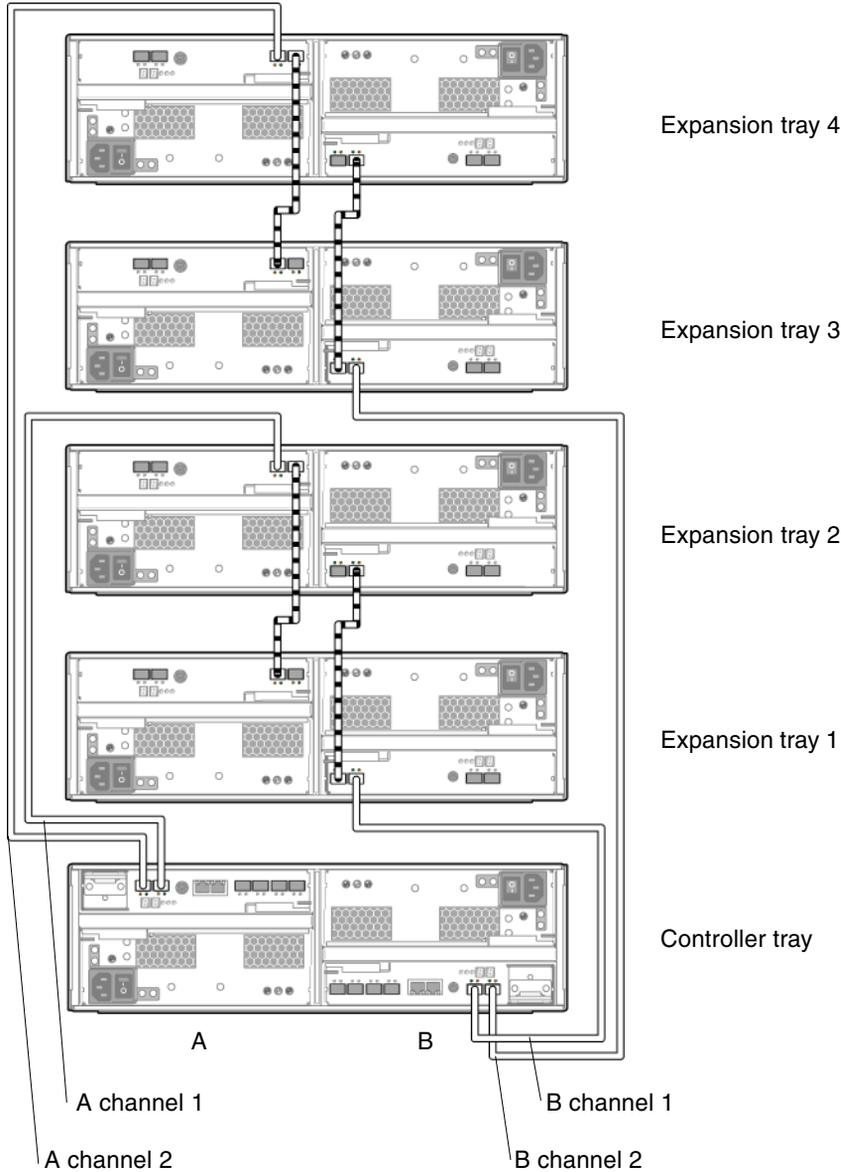

FIGURE 2-26 1x5 Array Configuration Cabling
3. Connect one FC cable between the Controller B channel 1 expansion port and the B-side expansion port 1B of expansion tray 1 (FIGURE 2-26).
4. Connect one FC cable between the B-side expansion port 1A of expansion tray 1 and the B-side expansion port 1B of expansion tray 2 (FIGURE 2-26).
5. Connect one FC cable between the Controller B channel 2 expansion port and the B-side expansion port 1B of expansion tray 3 (FIGURE 2-26).
6. Connect one FC cable between the B-side expansion port 1A of expansion tray 3 and the B-side expansion port 1B of expansion tray 4 (FIGURE 2-26).
7. Connect one FC cable between the Controller A channel 1 expansion port and the A-side expansion port 1B of expansion tray 2 (FIGURE 2-26).
8. Connect one FC cable between the A-side expansion port 1A of expansion tray 2 and the A-side expansion port 1B of expansion tray 1 (FIGURE 2-26).
9. Connect one FC cable between the Controller A channel 2 expansion port and the B-side expansion port 1B of expansion tray 4 (FIGURE 2-26).
10. Connect one FC cable between the A-side expansion port 1A of expansion tray 4 and the A-side expansion port 1B of expansion tray 3 (FIGURE 2-26).